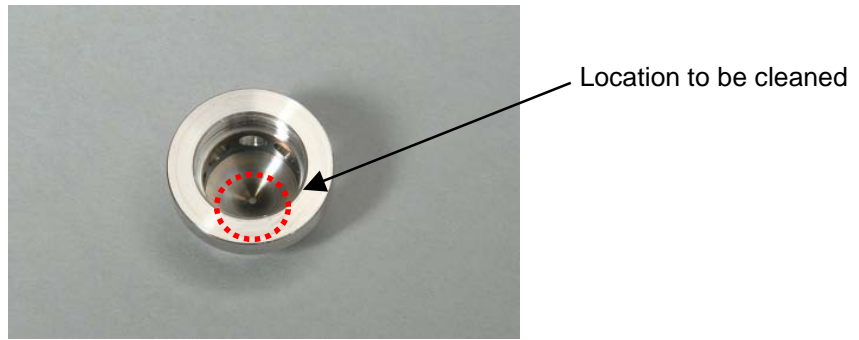

Figure 5.1-10 Cleaning the Wehnelt 1
Dissolve the supplied metal polishing agent in alcohol, apply it to the tip of a cotton swab, and clean the spots shown in Figure 5.1-10. Finally, thoroughly wipe the cleaned spots with alcohol to remove any residual metal polishing agent or particles, and remove lint and particles with an air blower. Using the system with such particles still remaining can result in image distortion, such as stigma spots on the observation image. See Section 4.2.13 (3) for stigmatism.